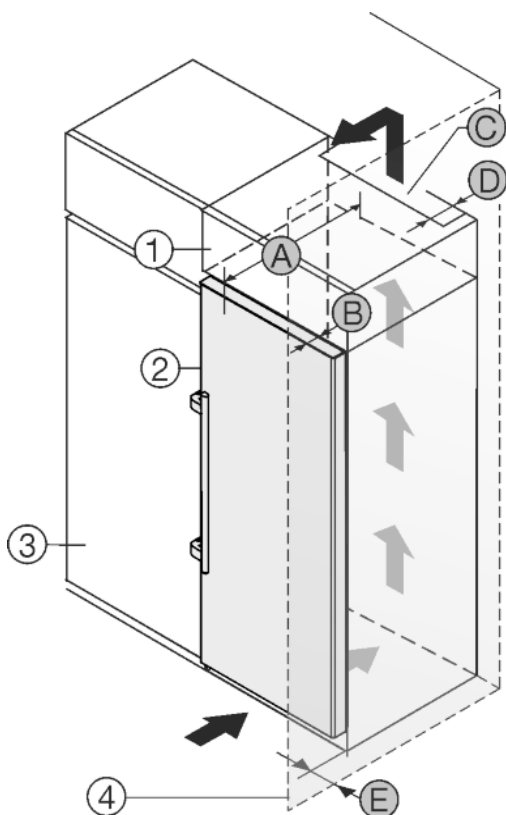

Fig. 24
The appliance can be built into kitchen units. A top cupboard *Fig. 24 (2)* can be added above the appliance in order to bring the appliance *Fig. 24 (1)* up to the height of the fitted kitchen units.
The appliance can be installed right next to the kitchen cabinet *Fig. 24 (3)*. The appliance must protrude by depth *Fig. 24 (B)* from the front of the cabinet so that the doors can be opened fully. The appliance may protrude further depending on the depth of the kitchen cabinets and whether wall spacers are used.
- At the back of the top cabinet, there must be an air outlet shaft with depth *Fig. 24 (D)*, spanning the entire width.
- The ventilation shaft *Fig. 24 (C)* must be observed under the ceiling.
If the appliance is installed with the hinges next to a wall *Fig. 24 (4)*, the distance *Fig. 24 (E)* between the appliance and the wall must be observed. This is how far the handle protrudes when the door is open.